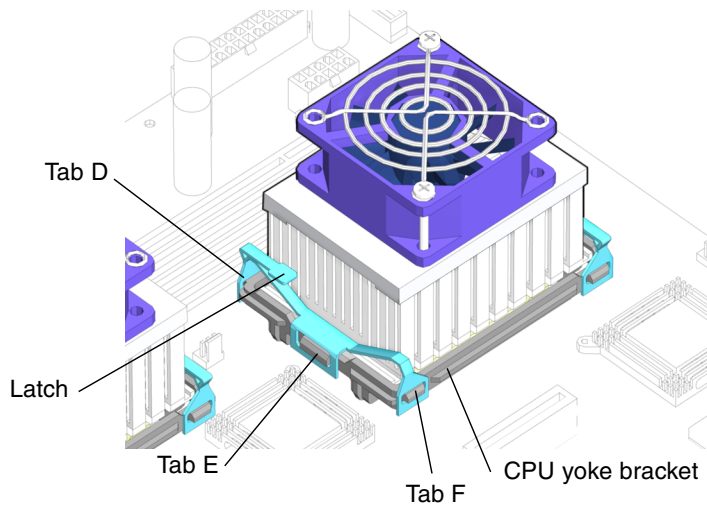

FIGURE 11-19 Installing the Clip over Tab E
- f. Place the clip over tab e of the CPU yoke bracket (FIGURE 11-19).**